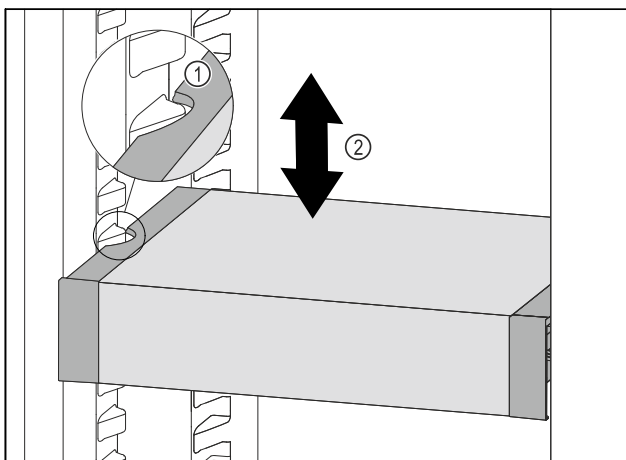

Fig. 151
- Pull VarioSafe forwards until the recesses in the side of the VarioSafe are at the level of the support rib in the refrigerator compartment. Fig. 151 (1)
- Move VarioSafe up or down in the refrigerator compartment until the desired height is reached. Fig. 151 (2)